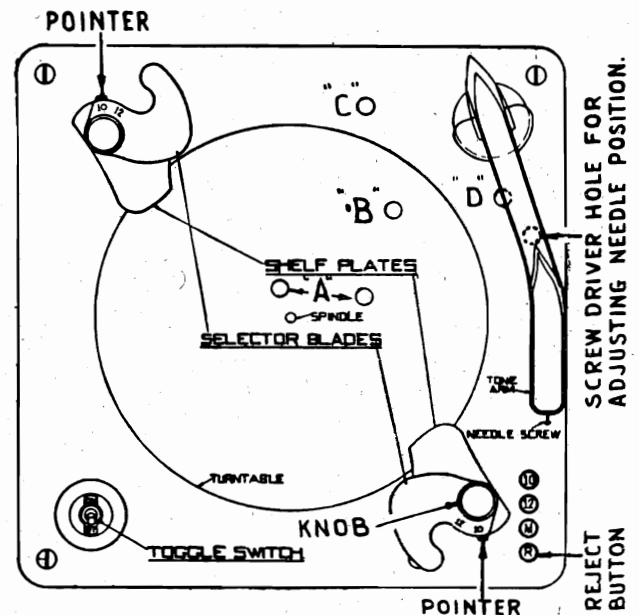

FIG. 1 SHOWS SELECTOR BLADES IN POSITION FOR 10-INCH RECORDS.
To set for record size. (1) Clasp one of the posts just underneath the shelf plate, with thumb and finger of left hand. With right hand, lift knob and turn selector plate until the figure 10 or 12 (whichever size you want to play) is opposite the pointer. Do the same with the other post. Both selector plates must be in 10 or 12 position. (2) Push button marked 10 or 12, as required (see Figure 1).
The record changer will not need lubrication more than once a year and should be lubricated with a good light machine oil such as S.A.E. 10. There are 6 locations that will need oiling. These are shown in Figure 1. These lubricating holes can be reached from the top of the mechanism and are as follows:
1. The motor gear housing contains 3 lubricating wicks. These wicks are shown at "A" in Figure 1. Two of these wicks are reached through the hole directly in back of the turntable spindle and the other wick to the right of the turntable spindle.
2. A small quantity of oil should be dropped through hole marked "B" in Figure 1. Lubricating this point distributes oil to the various moving surfaces of the mechanism.
3. A felt wick directly below the hole marked "C" in Figure 1 should also be oiled.
4. Another felt wick marked "D" in Figure 1 should also be well oiled.